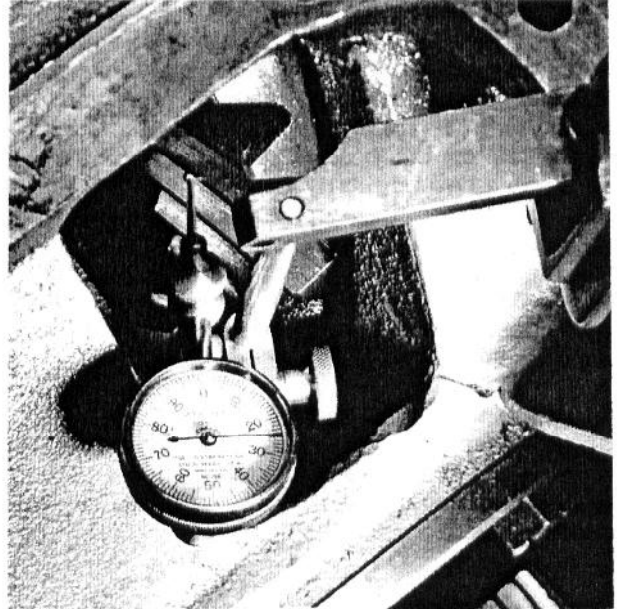

Fig. 86 — Ring Gear and Pinion Backlash Measurement Setup
2. Attach a dial indicator to the center housing and rest the dial indicator on a ring gear tooth at the pitch diameter of the gear, on a line toward the center of the differential. Refer to Fig. 86.